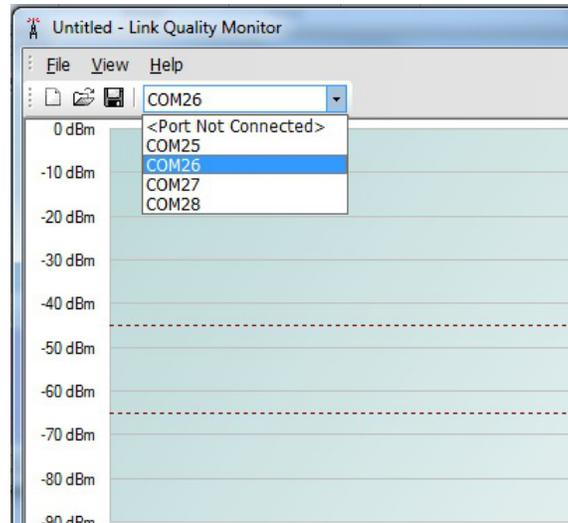

Figure 27. COM Port Selection
- a. From the toolbar, click the **Port Connection** box. A drop-down menu displays the available ports (see Figure 27).